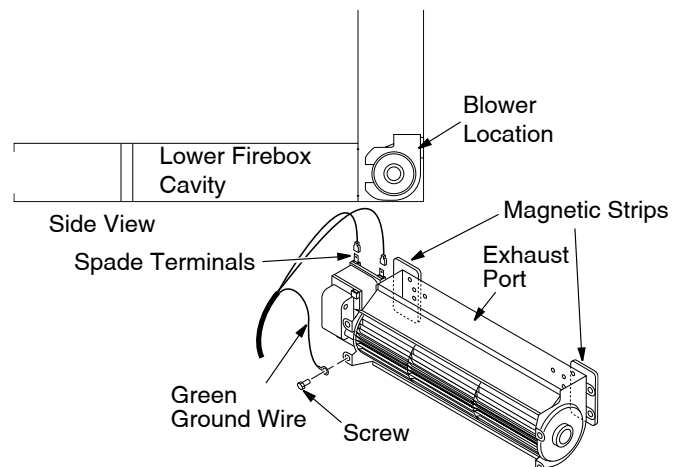

Figure 33 - Blower Model BK
1. Attach the power cord to the blower motor by firmly pushing the two female terminals at the end of the power cord onto the two spade terminals on the blower motor (see **Figure 33**).
2. Attach green ground wire from power cord to blower housing using screw provided (see **Figure 33**). Tighten screws securely.
3. Place the blower against the lower rear wall of the firebox outer wrapper with the exhaust port directed upward. The blower will fit inside the back opening and be held in position against the back wall by the magnets (see **Figure 33**).